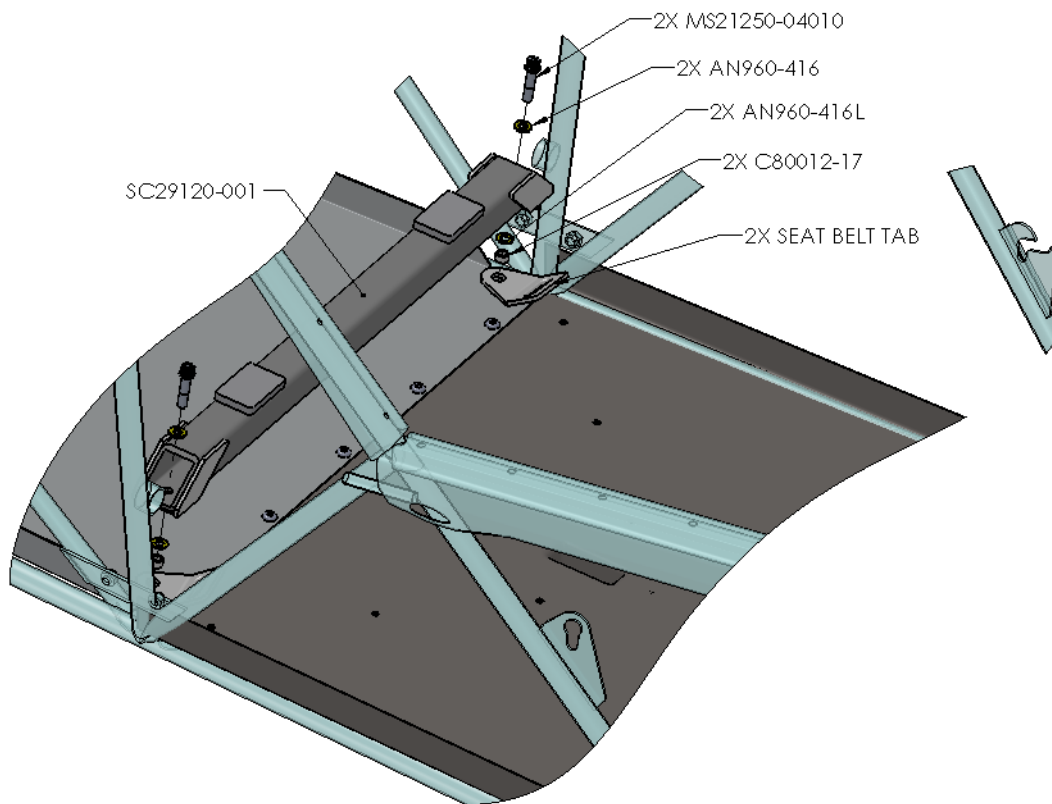

Figure 1 – Aft Seat Beam Temporary Installation
16. Reinstall the entire seat subassembly into the fuselage. Bolt the cross beam to the fuselage using hardware shown in Figure 1.